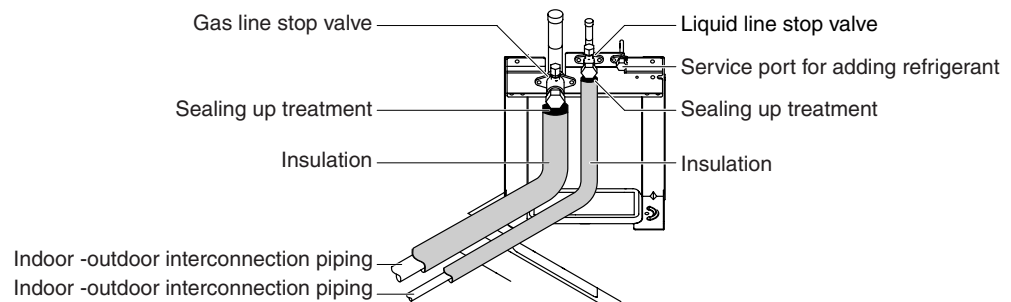

fig. 10
- If there is a possibility that condensation on the stop valve might drip down into the indoor unit through gaps in the insulation and piping because the outdoor unit is located higher than the indoor unit this must be prevented by sealing up the connections. See figure 10.